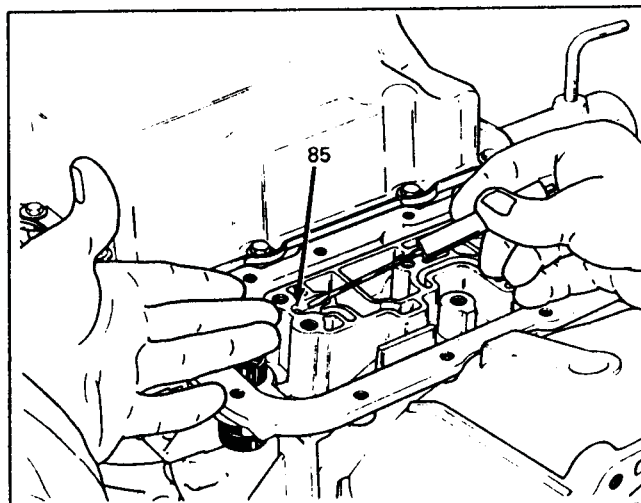

Figure 9
13. Remove 1 checkball from adapter case using a screwdriver (See Figure 9).